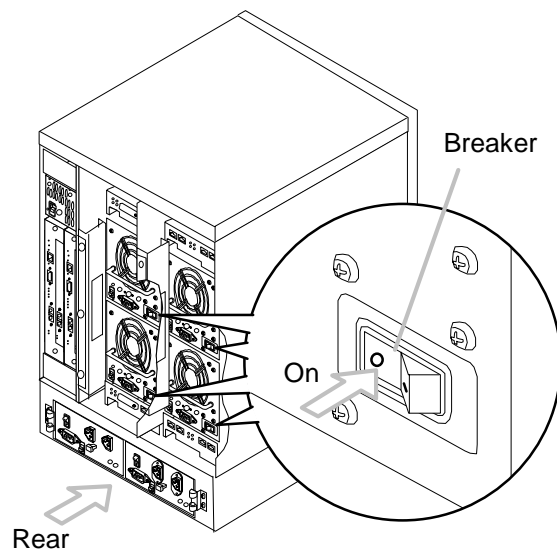

Figure 4.30 Location of Breaker
4. Set all the breakers in the AC/DC power supply units to on. (see figure 4.30)